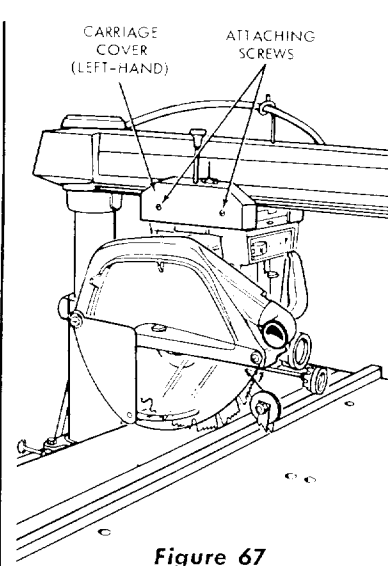

Figure 67
- Remove left-hand carriage cover (figure 67).
- Install the left-hand carriage cover (figure 67).